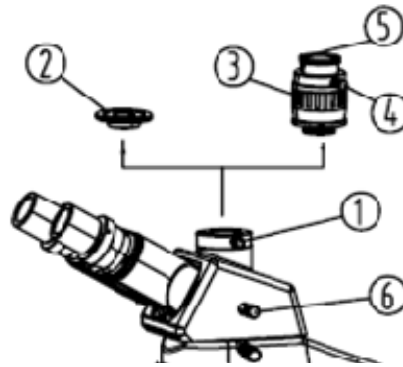

Fig.20 C-Mount Adapter
- Loosen the locking-screw ① (Fig.20) on trinocular head and take off the cap ② on the vertical tube/port.
- Remove the cap on the C-mount ③ and put the adapter into the port and lock in-place with the screw ④.
- The C-mount adapter's top threaded mount ⑤ is a standard external C-thread. Your video camera should have an internal C-thread. Thread your camera onto the C-mount adapter.
- Loosen the locking screw ④ to rotate your camera until the image is properly oriented. The C-mount adapter includes an independent focusing ring; adjust for the best image.
- Push back the beam splitter slide lever ⑥ when not using the vertical port for video/photography.